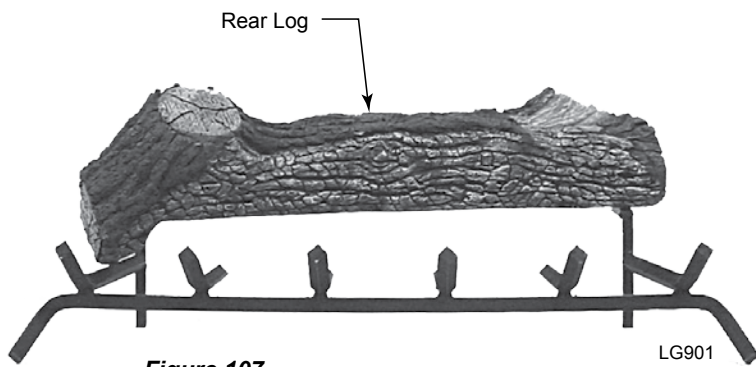

Figure 107 - Place Rear Log
2. Place Rear Log #1 on back of grate. Left side should fit on grate in front of rear stand. Right side goes on the rear stand of grate. *Figure 107*